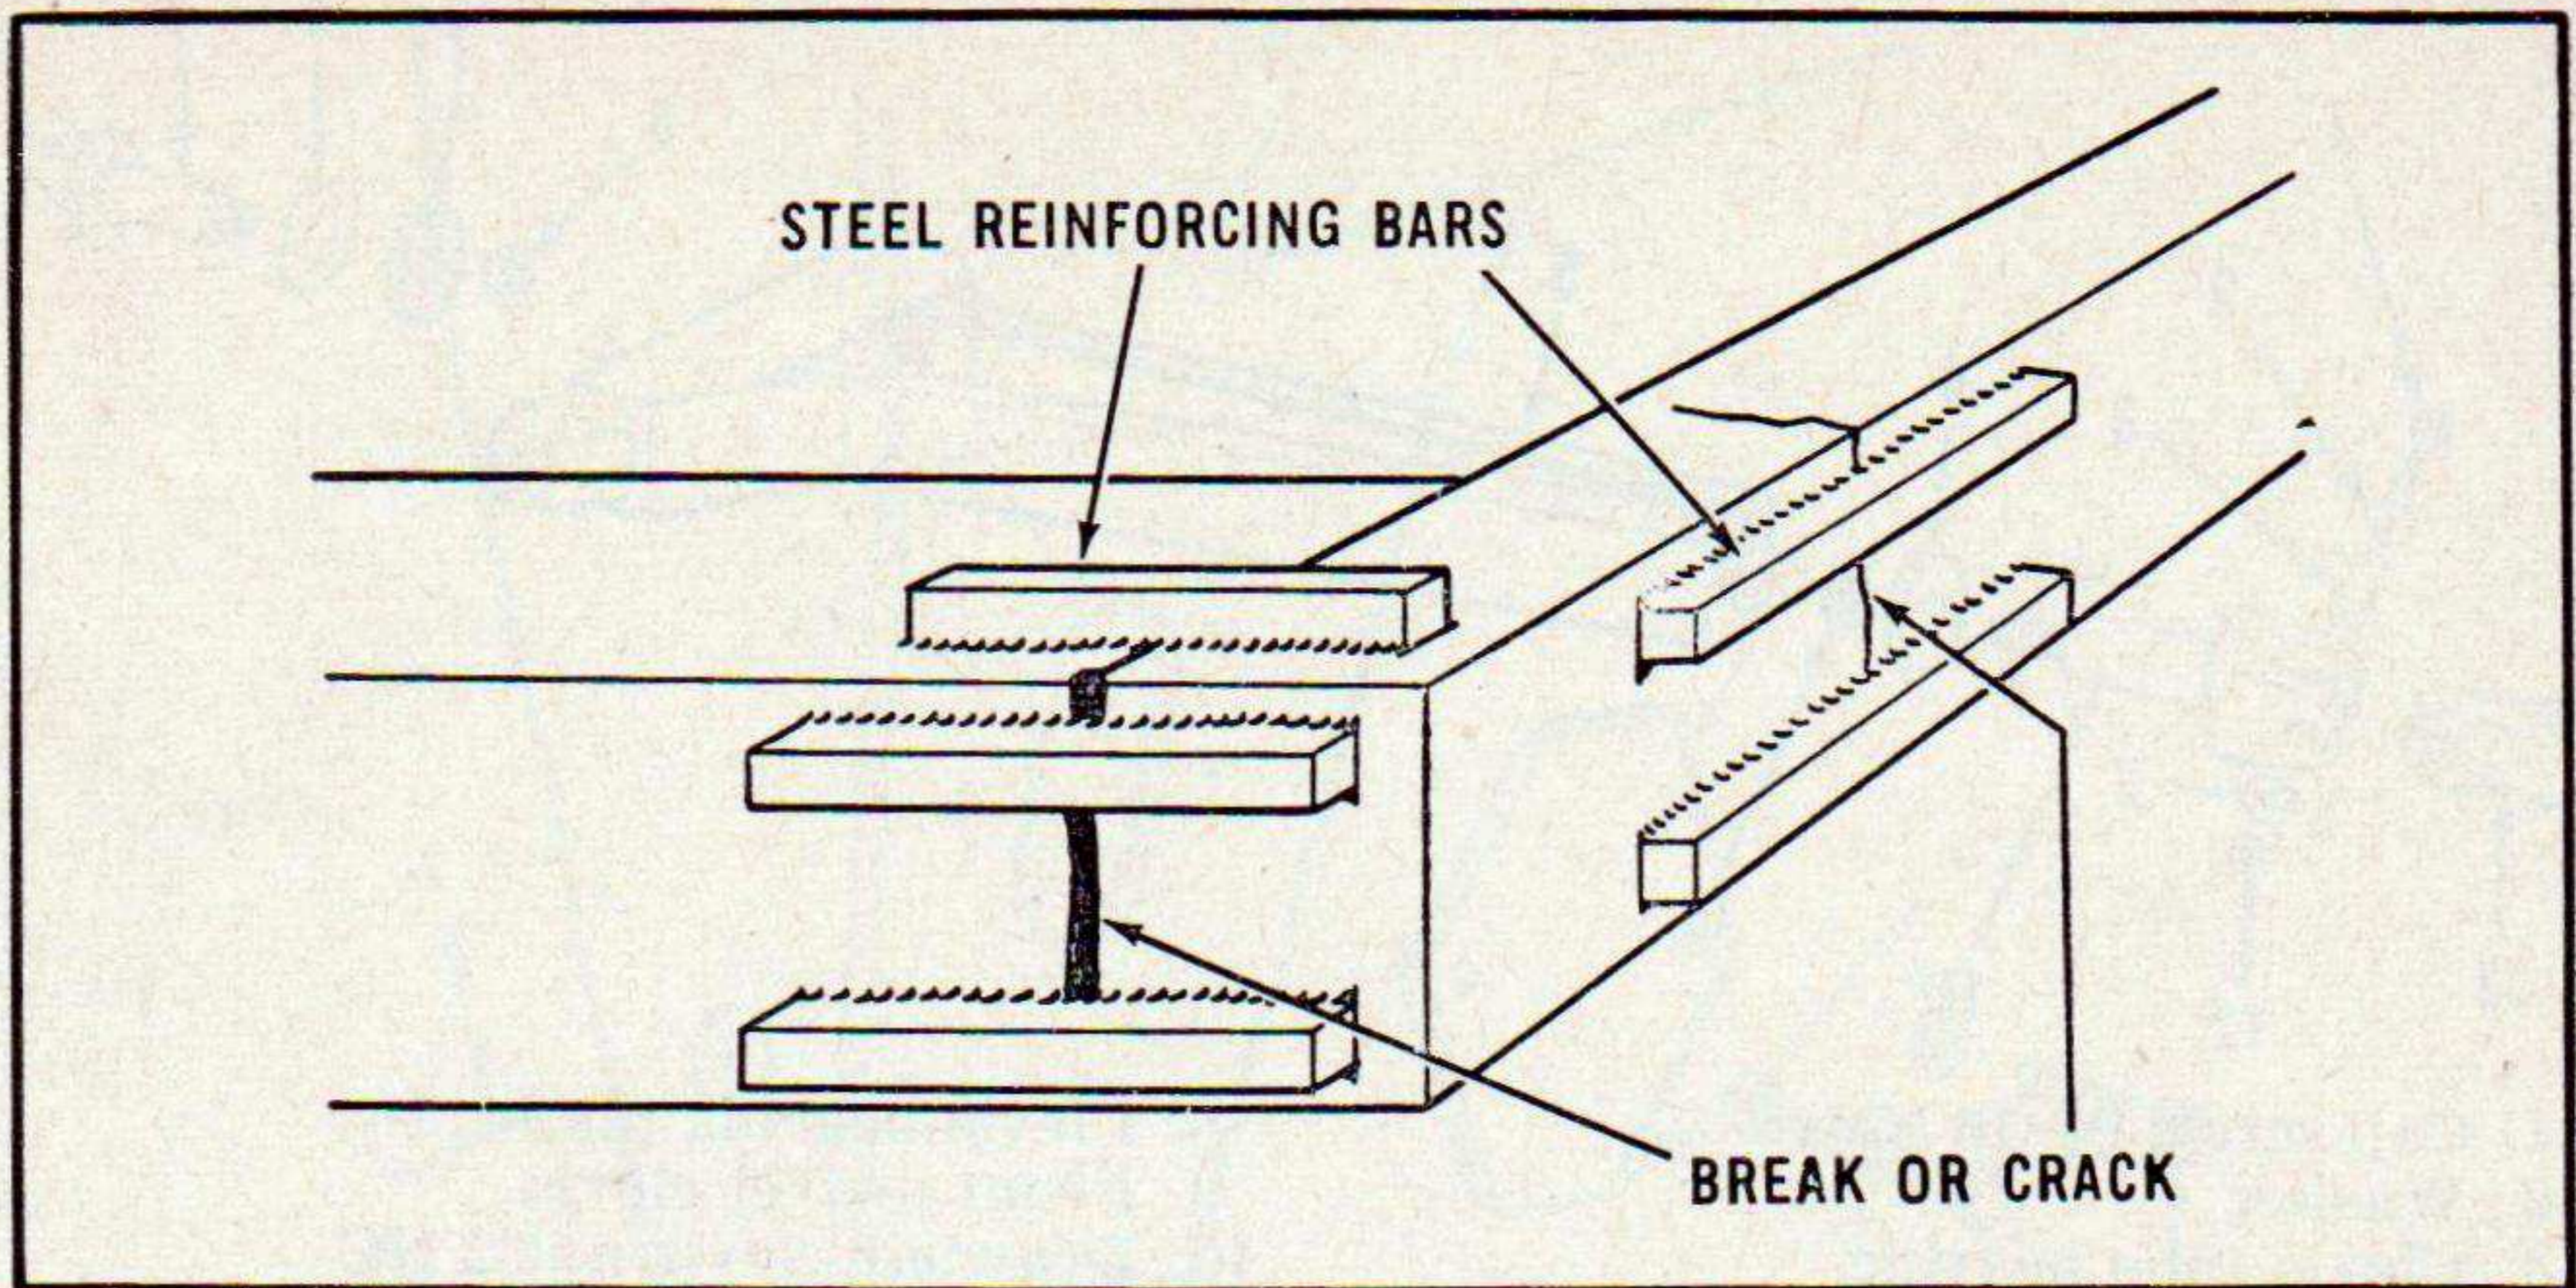

Figure 29. Method of repairing breaks or cracks.
e. *Repair.* The only repairs that can be made to the drawbar other than replacing with new parts are welding repairs. To repair breaks or cracks use only alloy steel for reinforcing, and coated arc electrodes for welding. To repair a break in a weld or a crack appearing on a boxbeam, first "V" out the old weld or crack and re-weld, filling the "V" section with weld metal flush with the surface of the boxbeam. Then reinforce the point of failure by placing steel bars across the break or crack as illustrated in figure 29. Weld along both sides of the reinforcing bars, but leave both ends unwelded.
e. Repair. The major portion of repair to the lift frame is done by replacing all defective and worn parts. If breaks or cracks are found repair as described in paragraph 44*d*(3) and illustrated in figure 29.
- (1) *Install lift frame sheaves.* To install lift frame sheaves follow the procedures in paragraph 38*c*.